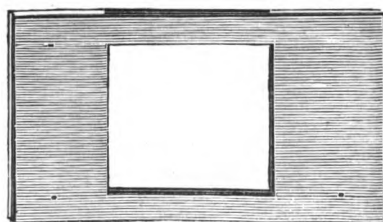

Fig. 51.
**Carriers for two or more Lanterns.**—The simplest is a solid frame with an opening in the top into which the slide drops (Fig. 51). This is a good carrier in its way, but has the drawback of having to be withdrawn completely from the lantern when the slide is changed, the slide is lifted out, or the frame inverted and the slide then drops out, a fresh one reinserted ; many superior carriers are now made to this.
(Fig. 51) is now made with an outer frame of very thin wood. This frame remains in the lantern whilst the inner carrier is pulled out, the slide withdrawn, another is inserted and the carrier pushed back in its frame which ensures the slide occupying the same position on the screen each time.